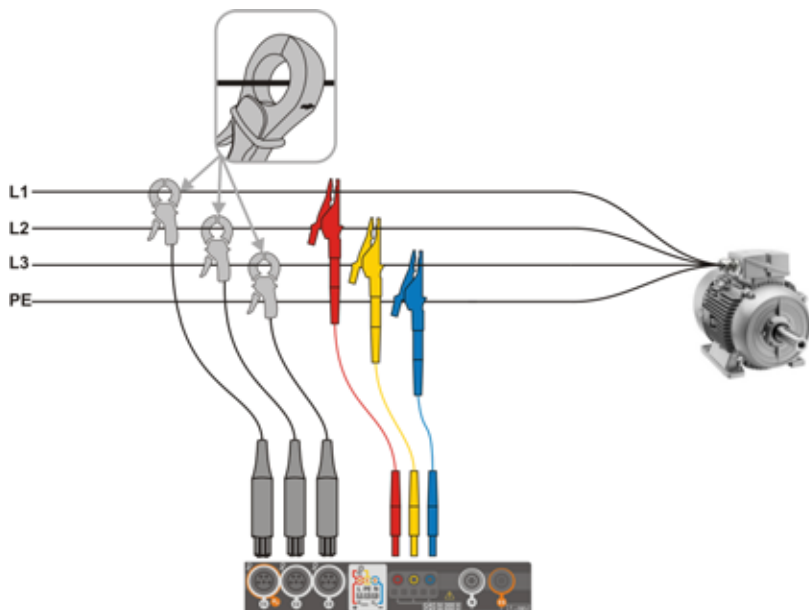
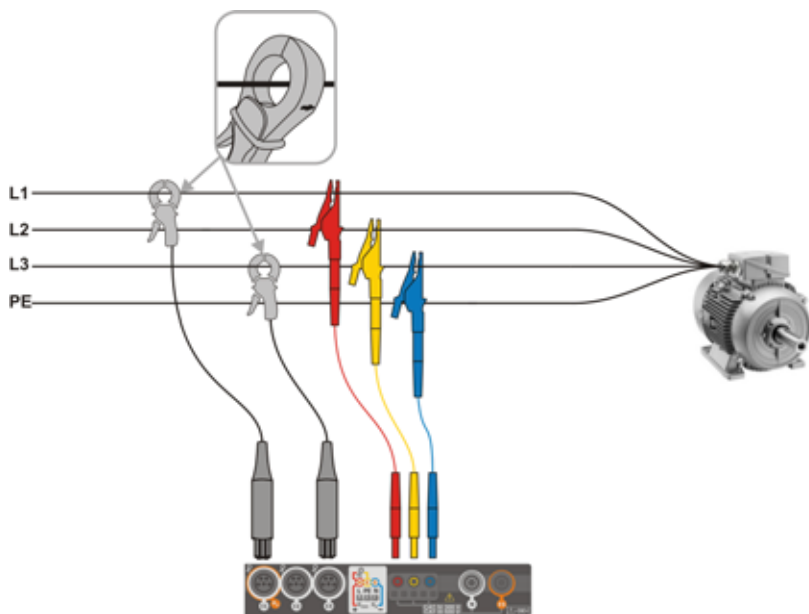

Fig. 5.7 Wiring diagram – 3-phase with three operating wires
Fig. 5.8 Wiring diagram – 3-phase with three operating wires (measurement of currents using Aron method)
- 3-phase 3-wire (Fig. 5.7 ,Fig. 5.8).
In three-wire AC systems, current may be measured by the Aron method (Fig. 5.8), which uses only two clamps that measure linear currents I_{L1} and I_{L3} . I_{L2} current is then calculated using the following formula: